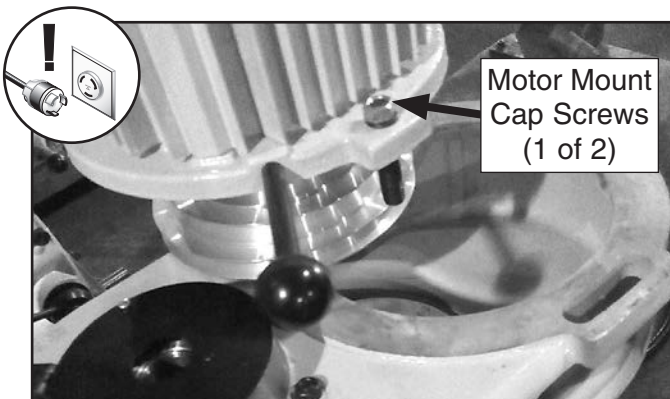

Figure 90. Two cap screws secure the motor to the headstock. Both must be removed.
4. Remove (2) motor mount cap screws, then remove motor (see **Figure 90**).